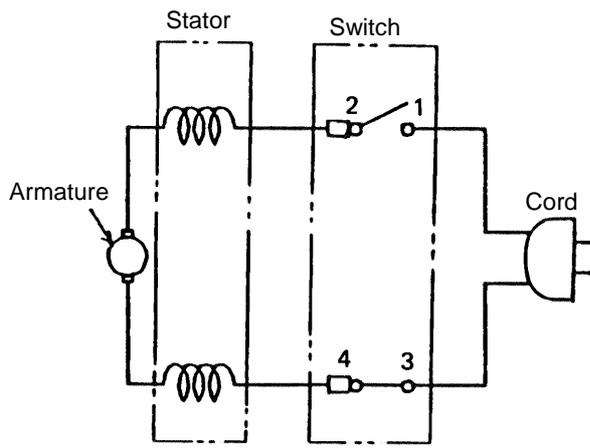

Fig. 14
- Within the Gear Cover Ass'y (3) Hitachi Motor Grease, Code No. 930035
(6) Wiring Diagrams (See Fig. 14 - 17)